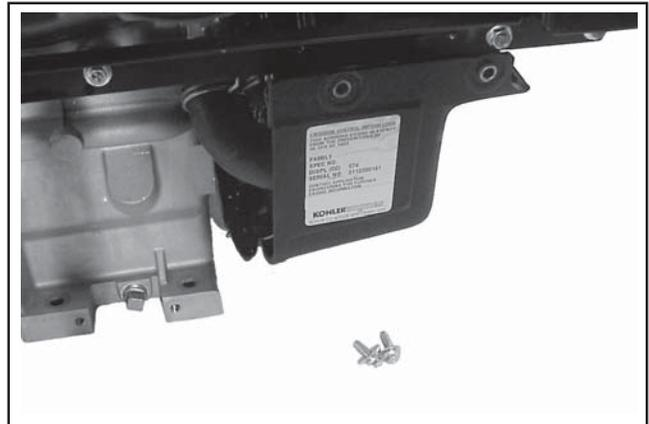

Figure 9-8. Removing Lower Flywheel Cover.
1. Remove the screws or nuts and flat washers (2 on each side) securing the lower flywheel cover to the LH and RH radiator support brackets. See Figure 9-8. The mounting plate for the rectifier-regulator will become detached when the LH screws are removed. Do not lose the small spacers located within the holes of the lower cover. Clips are used on some models instead of hex nuts.